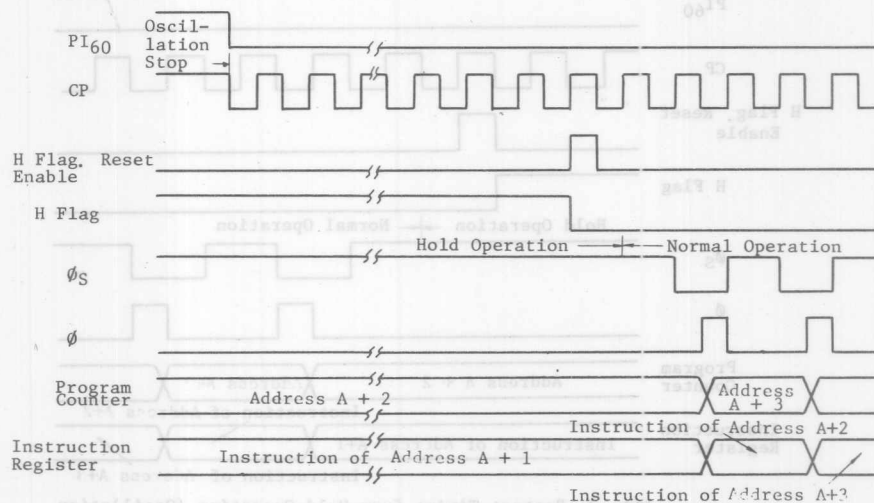

Fig. 4 Restart Timing from Hold Operation (Oscillation Stop)
When the oscillation is suspended during hold operations, restart operation begins in the lapse of a certain period of time after a start of oscillation by holding PI60 terminal to "L" level. (Refer to Fig. 4.) Special attention should be paid to the fact that in TCP4620BP the divider (2) is reset to "0" by holding PI60 terminal to "H" level.